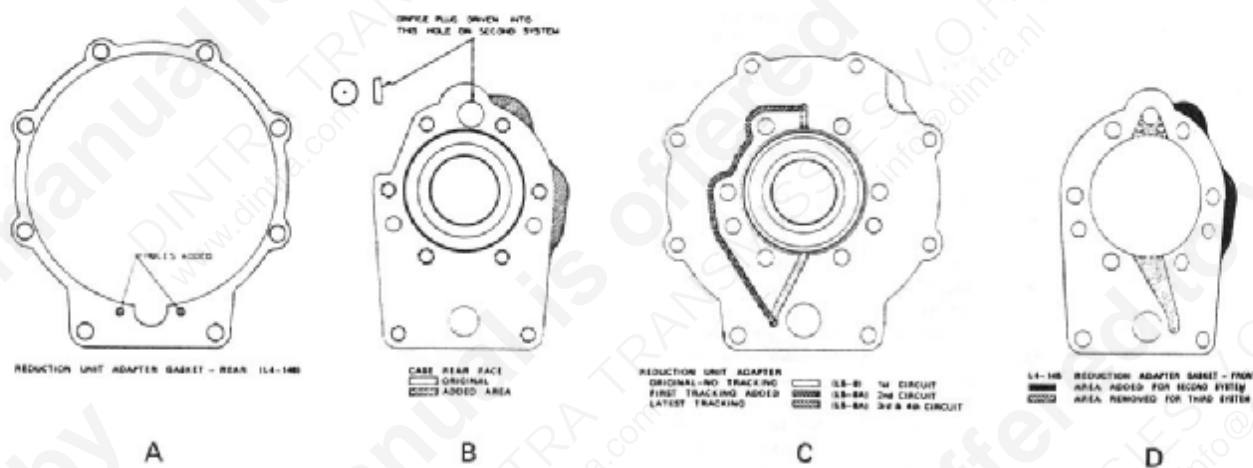
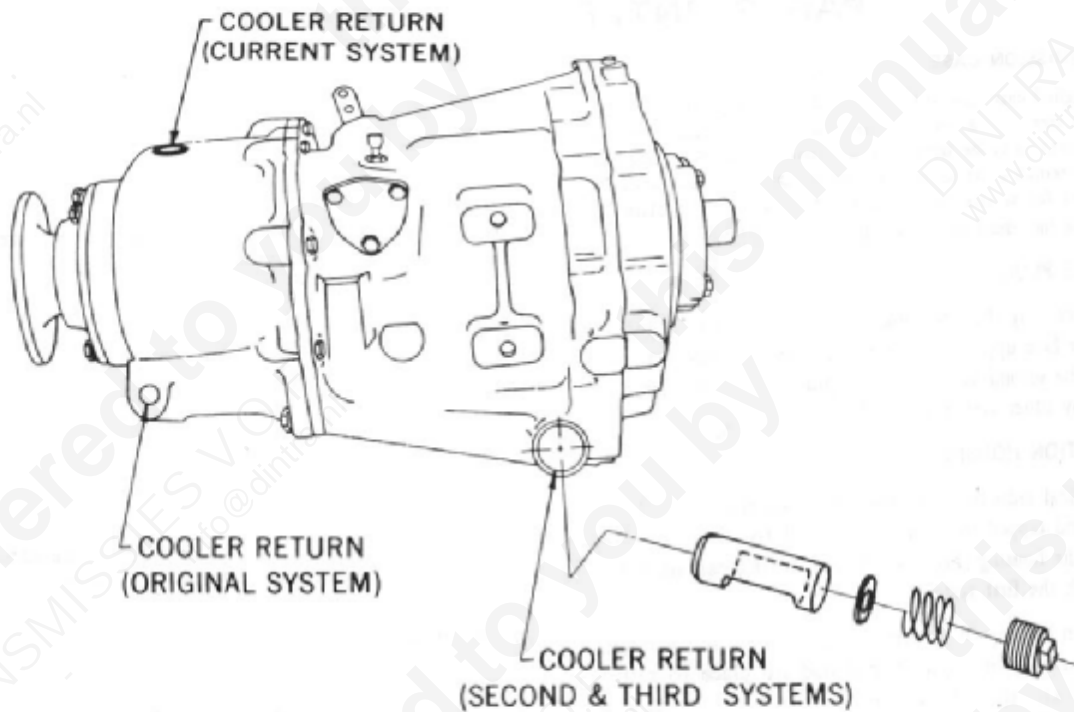
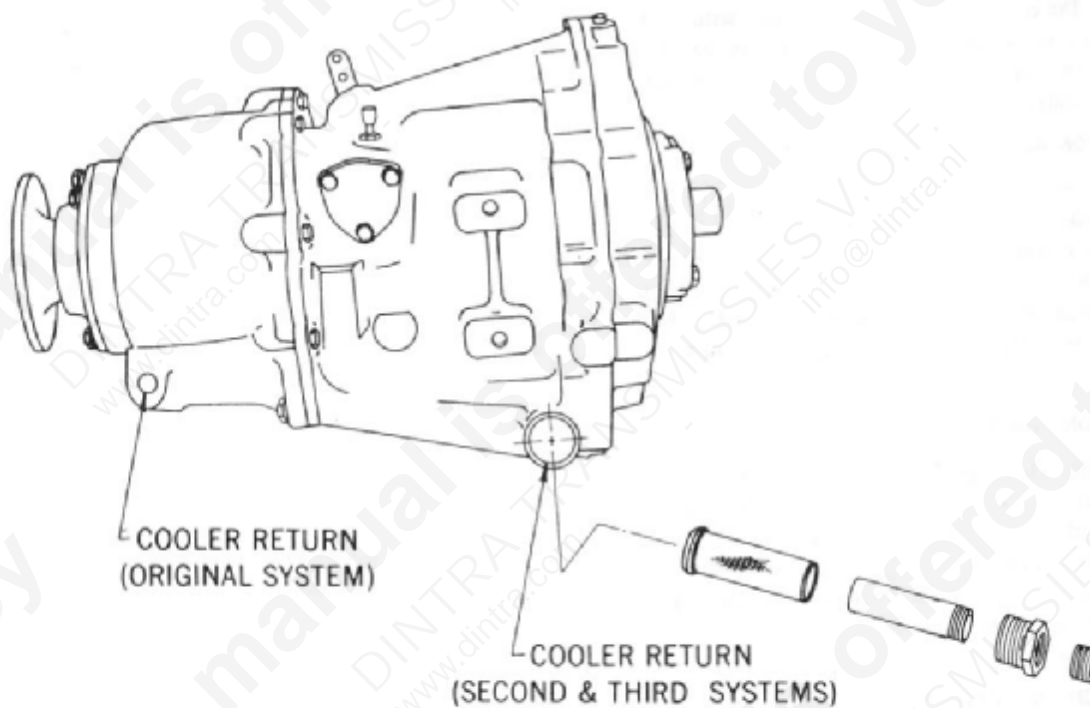
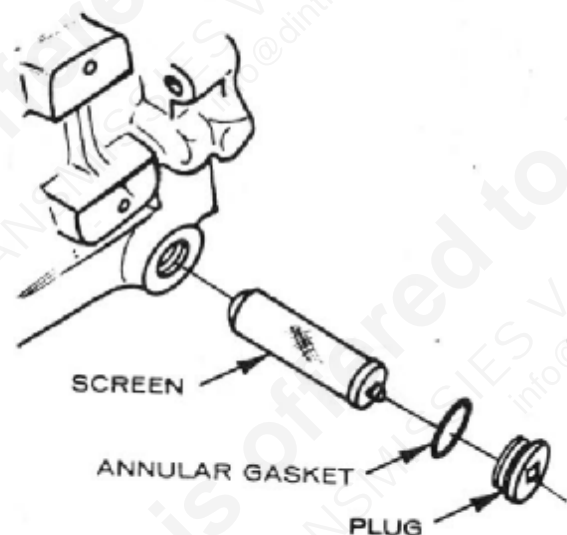

FIG. 5 PARTS REQUIRED FOR THE VARIOUS CIRCULATION SYSTEMS
FIG. 6 VARIOUS COOLER RETURN LOCATIONS WITH PARTS USED WITH FOURTH SYSTEM SHOWN.
FIG. 7 VARIOUS COOLER RETURN LOCATIONS WITH PARTS USED WITH SECOND & THIRD SYSTEMS SHOWN.
FIG. 8 EARLY SCREEN & DRAIN PLUG
(1) NOT CURRENT PRODUCTION - available for repairing earlier units.
(3) SEE FIG. 8 - ALSO NOTE (1).
(2) SEE FIG. 7.
Four circulation systems have been used for cooler and lubrication oil flow to the reduction gear set and rear bearing of 2.10 reduction transmissions. Units which have the earliest circulation system have the cooler oil returned to a tapped hole which is located on the lower right side of the reduction housing, (Fig. 6).
Transmissions which have cooler oil returned through a bushing in the drain plug opening of the forward and reverse transmission (as illustrated in Fig. 7) will either have the second or third circulation system. Units which have the second system have a crooked track on the reduction adapter front face. Units which have the third system have two short straight tracks on the reduction adapter front face, (Fig. 5, Item C). A visual inspection of the adapter front face will be required to determine which of these two systems is being used.
Transmissions which have the fourth system have cooler oil returned to the top of the reduction housing (as shown by Fig. 6). Oil screen (71-A98A), tube (71C-84), bushing (4885B), and dipstick (71-A195) were removed and pump inlet shield (72C-98), washer (35-143), spring (5L-222), a  $\frac{3}{8}$ " pipe plug (000444592) were added to transmissions which have the fourth system, (Fig. 6).
The original case can only be used with the first oil circulation system. The revised case, first used with the second system, may be used for all four systems. The part number remains the same and only revised cases will be furnished for service parts. The revised case has the rear face area increased as shown in Fig. 5, Item B.
An orifice plug (Part Number 4572X) was driven into the case rear face upper hole (Fig. 5, Item B) only on units having the second system. This plug should be omitted when any other system is used.
The original reduction housing (Part Number L5-1) was drilled and tapped to return cooler oil to the lower right side of the housing (Fig. 6). This housing can only be used with the first system.
Reduction housing (Part Number L5-1B) is drilled and tapped to return cooler oil to the top of the housing (Fig. 6). The correct housing must be used with each system; however, all three earlier systems may be updated to the latest system by including the proper parts in the assembly.
Two small holes (Fig. 5, Item A) were added to reduction adapter gasket - rear (L4-146) for use with the second circulation system. This gasket with the two small holes may be used for all replacements. The gaskets without the two small holes should no longer be available, but should never be used except with the first circulation system.
The reduction adapter gasket - front (L4-145) was changed twice by first adding material to cover the crooked track in adapter front face and later the gasket was cut out to match the straight track used with the third system (Fig. 5, Item D). The latest gasket may be used for all four systems and will be the only gasket supplied for service.
The oil strainer, annular gasket, and drain plug, illustrated in (Fig. 8), can only be used with cases having the case face machined to seal on the annular gasket.
Parts illustrated in (Fig. 7) are used with the second and third circulation systems. The oil strainer with an open end is also used as a service replacement part to replace the strainer illustrated in (Fig. 8) for use with the first circulation system.
The pipe plug illustrated in (Fig. 7) replaced the annular gasket and drain plug. Case threads are different for each plug, therefore these plugs are not interchangeable.
Parts used with the third circulation system which are omitted when changing to the fourth system are shown in (Fig. 7). Parts used in the fourth system are shown in (Fig. 6). Individual parts are not interchangeable. These parts may be changed if all parts of each group are used together.
NOTE: The oil inlet shield should not be removed from the forward and reverse transmission case; however, if removed or when a new case is used, the shield should be pressed into position with the opening located down in the transmission as shown in (Fig. 6).